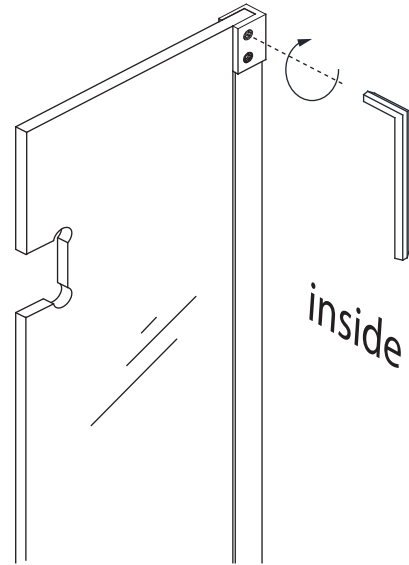

Fig 11
9. Tighten the rubber-tipped set screws on the **Hinge Panel Glass Bracket (#36)** to secure the glass. **Do Not overtighten!** (Fig 11)